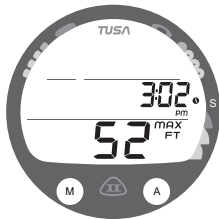

Fig. 94 - FREE DIVE ALT 2
**Free Dive ALT 2**, information includes (Fig. 94) -